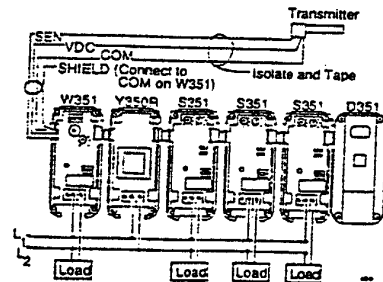

Figure 4: Typical Multistage Humidity Control System
- Consult the typical wiring diagrams (Figures 4, 5 & 6) for proper system wiring.